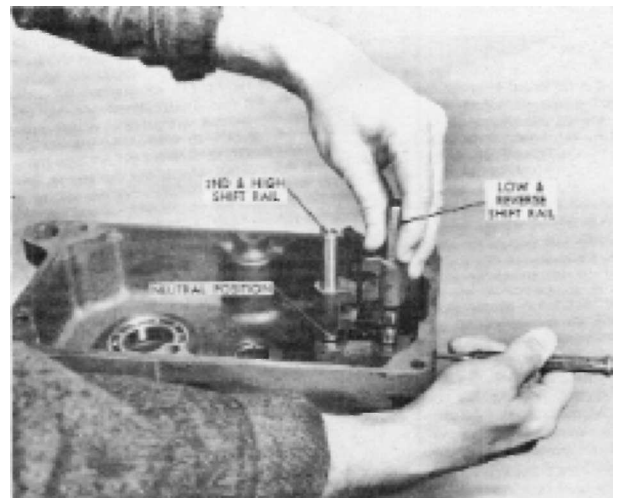

FIGURE 15
2. Install the 2nd and high shift rail and fork assembly (the one with the unequally spaced detent grooves.) See Figure 15.